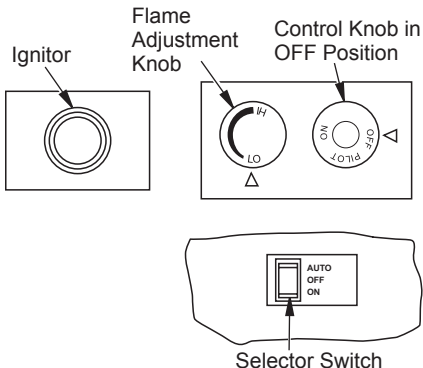

Figure 39 - Control Knob, Ignitor Button and AUTO/OFF/ON Switch
4. Press in and turn control knob clockwise  to the OFF position (see Figure 39, page 24).
5. Wait five (5) minutes to clear out any gas. Then smell for gas, including near the floor. If you smell gas, STOP! Follow "B" in the safety information, column 1. If you don't smell gas, go to the next step.
6. Press in and turn control knob counterclockwise  to the PILOT position. Press in control knob for five (5) seconds (see Figure 39).